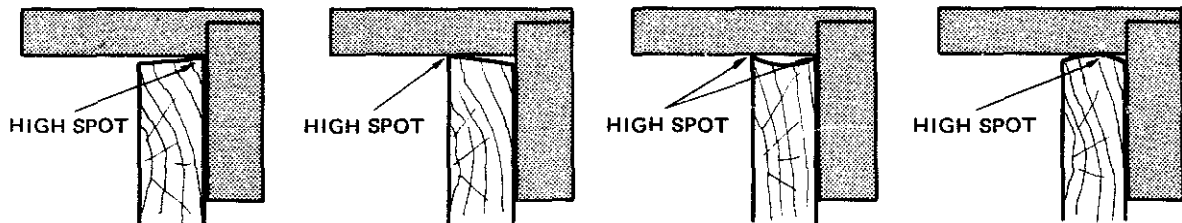

Fig. 8-29 Testing for squareness.
7. Test the edge for squareness by placing the handle of a try square against the working face, and the blade across the planed edge. Move the try square along the full length of the edge and mark any high spots. See figure 8-29.